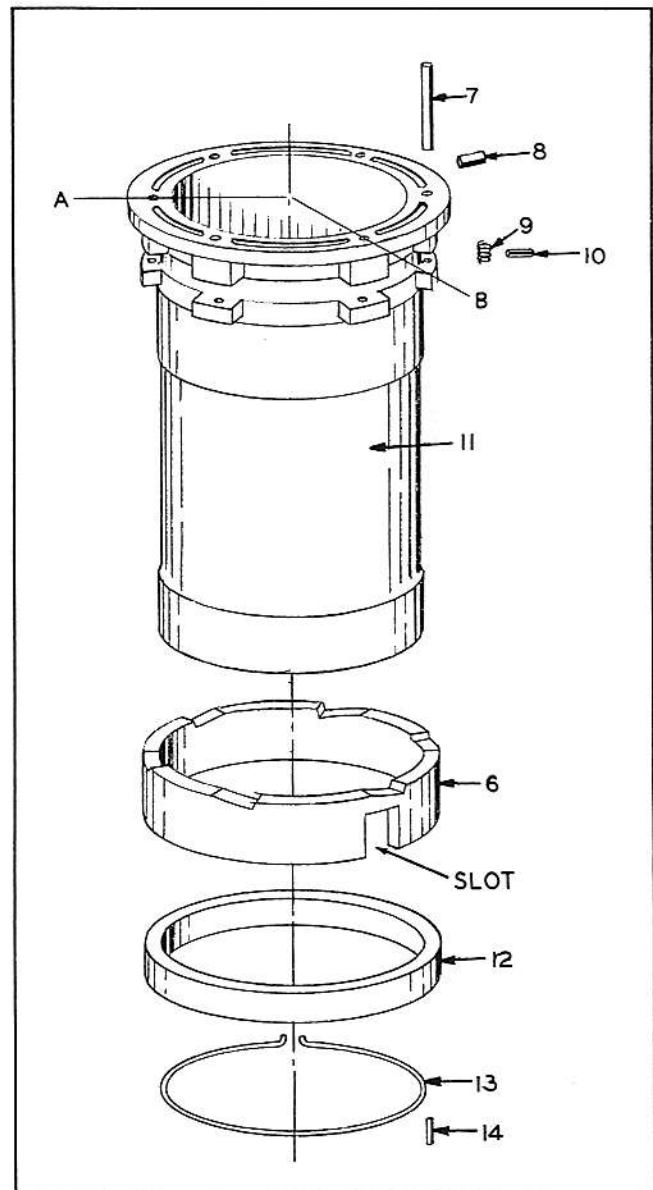

Fig. 32 - Unloader Mechanism Assembly
by oil pressure, is in the position shown in Fig. 32. The unloader spring (4) pushes the unloader piston (1) and the unloader rod (5) back, thereby rotating the cam rings (6) so that the lift pins (7) are raised on the cams. These lift pins raise the compressor suction valves compressing the suction valve springs. The unloader remains in this position until the compressor is started and the oil pressure reaches approximately 30 psi, at which point the pressure pushes the unloader piston back against the unloader spring. This motion is transmitted to the cam ring which rotates and lowers the lift pins, allowing the suction valve to act as a normal valve.
PARTS LIST, Fig. 32
A (See Fig. 32). This pin is opposite the locating pin (8). The exception to this is the inside pair of unloading cylinders on the 8 and 16 cylinder compressors and the one pair on the four cylinder. Locate the slot below point B for these locations. Before replacing the unloader piston plate push in on the unloader piston with the hand and observe both cylinders to see that the unloader mechanism is working properly.